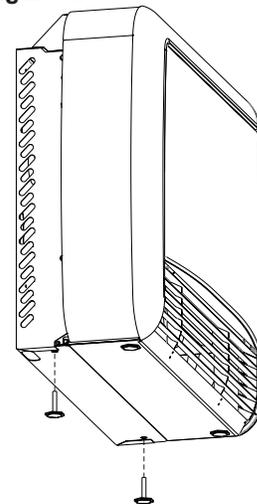

Figure 5
- Install the two leveling legs removed in step 8 through two holes in the bottom of the wall mount shroud into the wall furnace. **See Figure 5.**